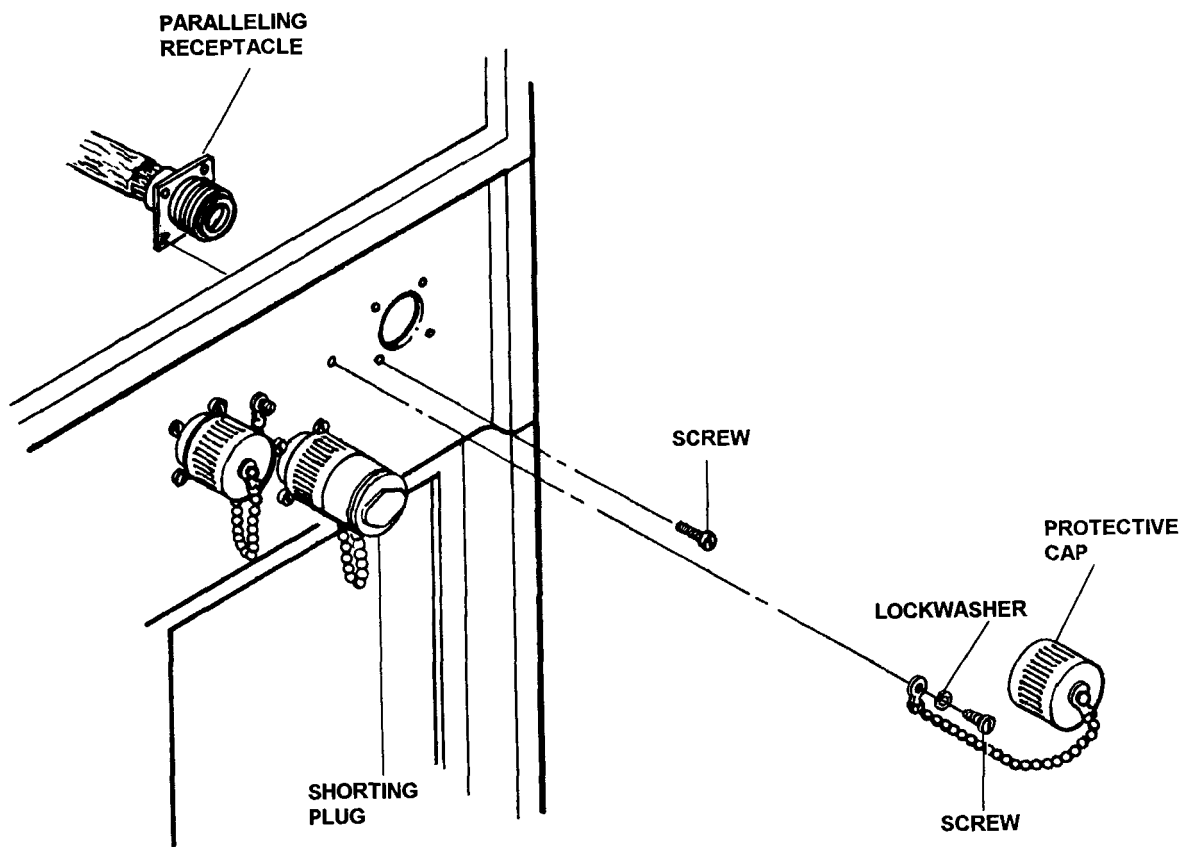

Figure 4-49. Paralleling Receptacles, Removal and Installation
- (1) Remove screws and lockwashers (Figure 4-49).
- (2) Unscrew protective caps and shorting plug from paralleling receptacles.
- (3) Remove screws and pull paralleling receptacles away from generator set.
- (4) Tag and unsolder electrical leads to receptacles.
- (1) Solder electrical leads to receptacles.
- (2) Attach paralleling receptacles to generator set and secure with screws (Figure 4-49).
- (3) Attach shorting plug to paralleling receptacle and install protective caps.
- (4) Install lockwashers and screws.